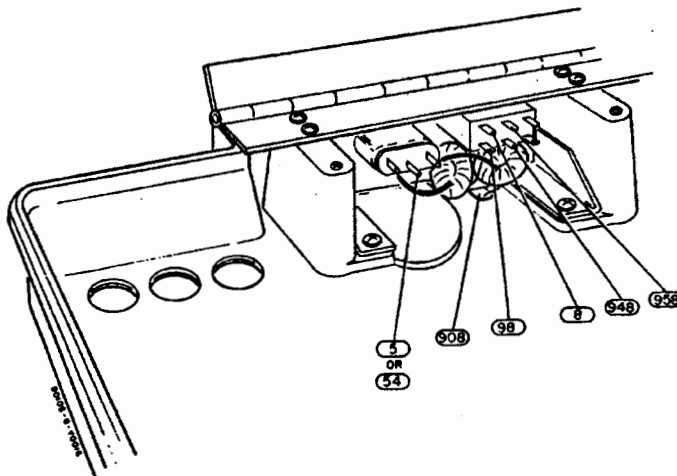
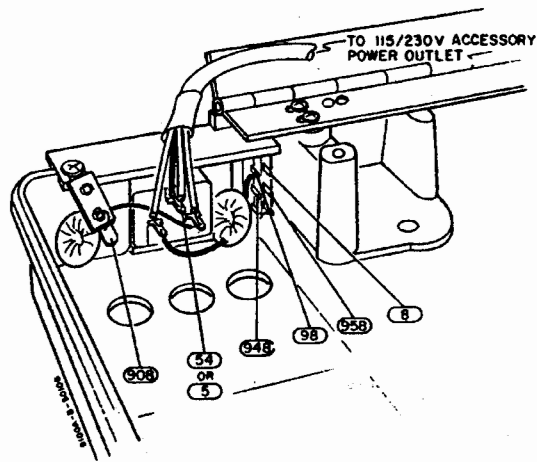

Figure 11. Original Bottom Case Configuration
Figure 12. First Configuration for Bottom Case With 115/230V Power Outlet
7. Remove the power receptacle bracket (applies only to Figure 11) or the rear bezel (applies to Figures 12, 13, and 14).
11. Reinstall the power receptacle bracket (Figure 11) or the rear bezel (Figures 12, 13, and 14).